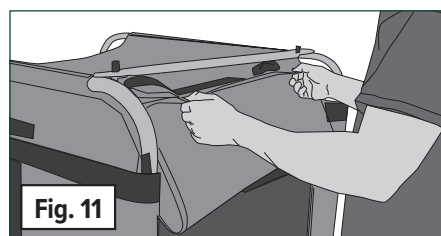

Fig. 11
1. **(Fig. 11)** Puncture through the hose web with a utility knife. Roll the hose on the ground while slitting the web until you meet your cut on the other side.
2. **(Fig. 11)** Open the inner buckles and pin the upper flap onto the Velcro strips at the top of the bag.